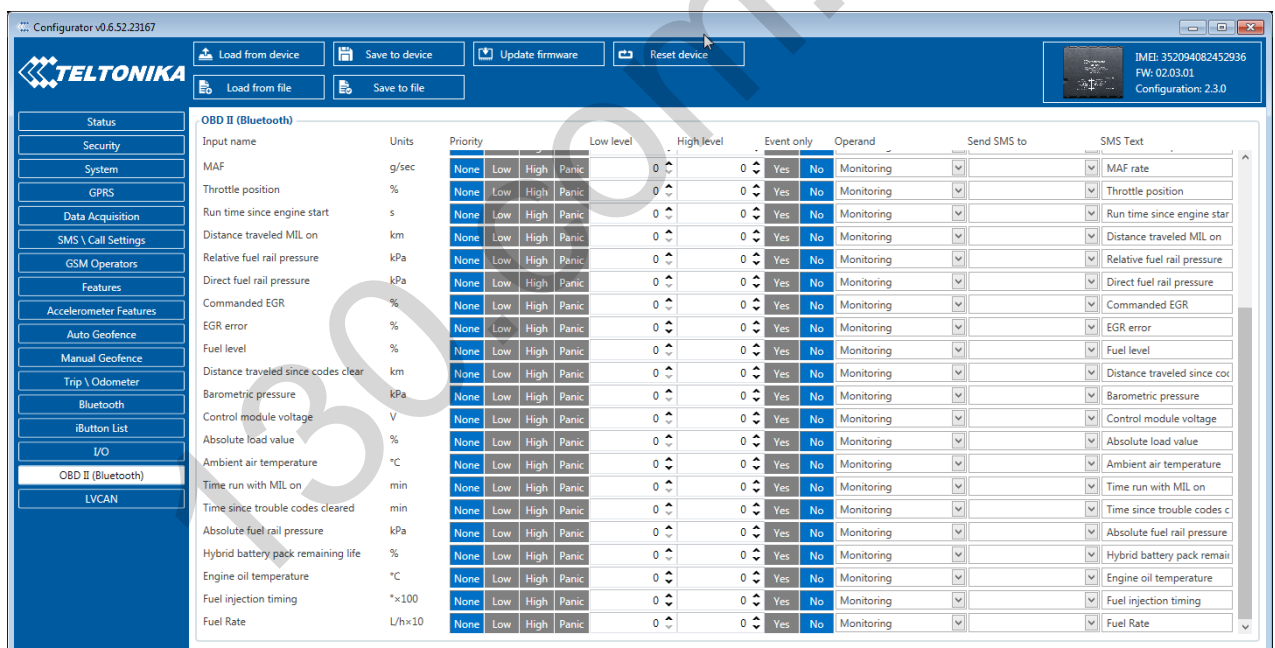

Figure 47 OBD II Bluetooth settings.
- Go to „**OBD II (Bluetooth)**“ in left menu and select priority and others parameters visible at Figure 47.